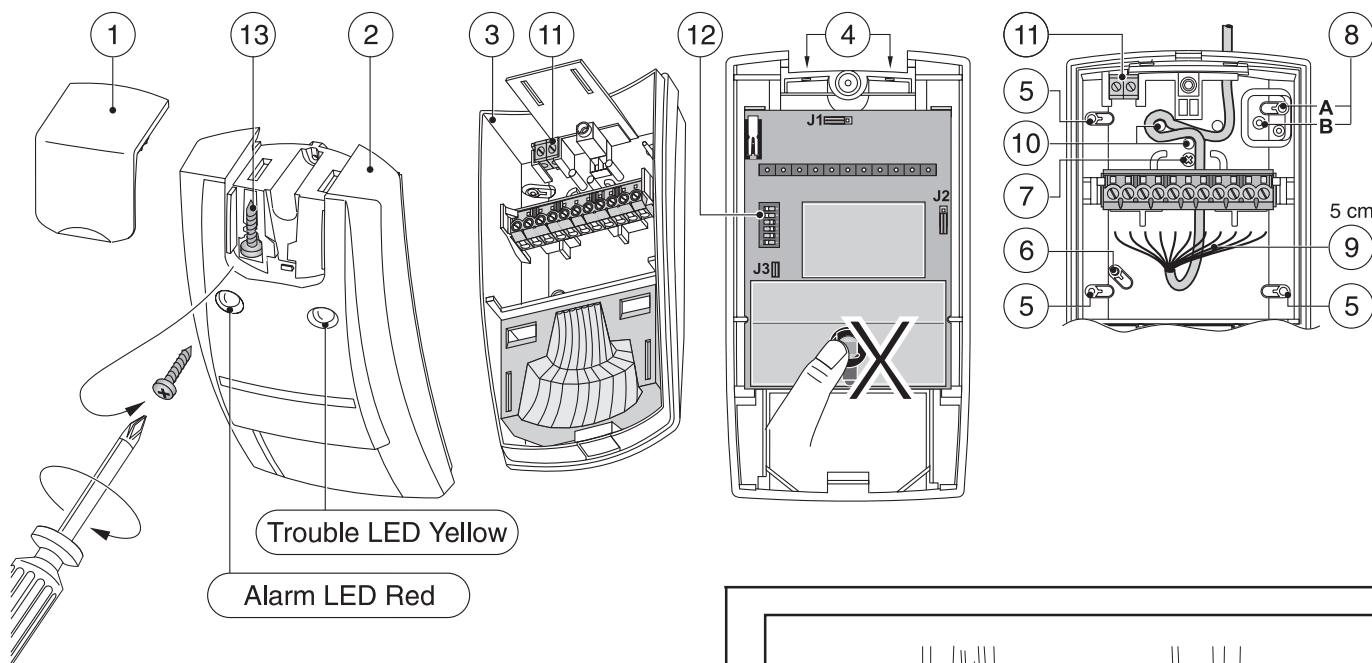

Fig. 2
- Break out one or both cable entry hole(s) ④ as required (Fig. 2).
- Select mounting holes for corner ⑤ or flat wall ⑥ mounting (Fig. 2).
- Mounting hole for swivelbracket ⑦ (Fig. 2).
- Mounting hole(s) for pry-off tamper ⑧ (Fig. 2) must always be used either for corner (⑤A) or flat wall (⑥B) mounting.
- Strip cable for 5 cm ⑨ and pull it through the cable entry hole(s) ④ and strain relief ⑩ (Fig. 2).
- Optional spare terminal ⑪ (Fig. 2).
- Close the detector ② & ③, insert screw ⑫ and replace cover plate ① (Fig. 2.)